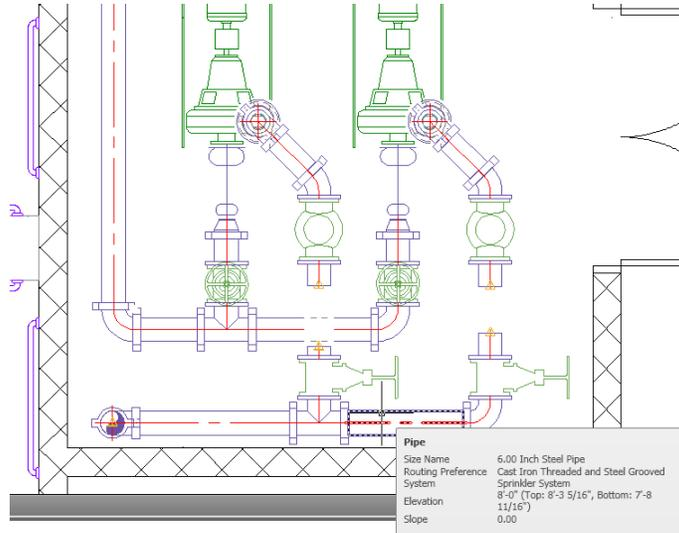

Figure 6.54
- Move the mouse slightly and then click the second point of the break so that the pipe is in two parts (see Figure 6.54).
All the horizontal piping and valves connected to this pipe will move to 8'-0". To verify this, simply hover your cursor over the objects and the Tooltip will indicate the new elevation (see Figure 6.54).